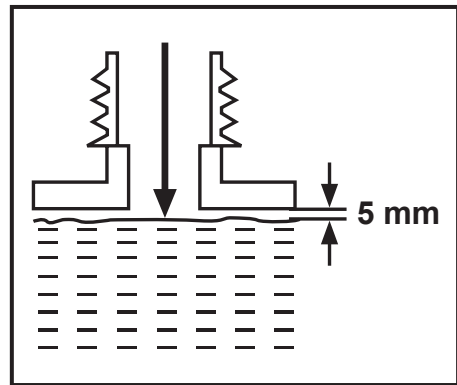

Fig. 7
4. Add suitable fuel into the fuel tank (7). Leave a minimum 5 mm of space between the top of the fuel and the inside edge of the tank to allow for expansion (Fig. 7).